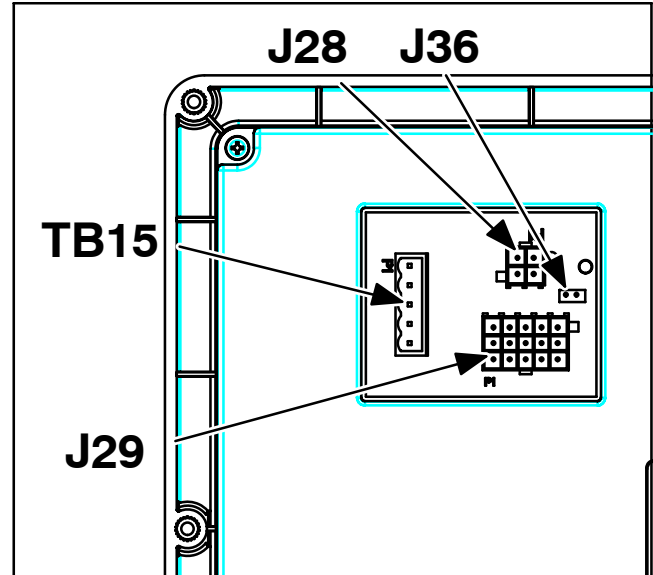

FIGURE 2-4. POWERCOMMAND X.2 OPERATOR PANEL CONNECTIONS
10. Reconnect all wiring connections to every component on the new cover. See Figure 2-4 for the location of each connection on the PowerCommand x.2 operator panel.